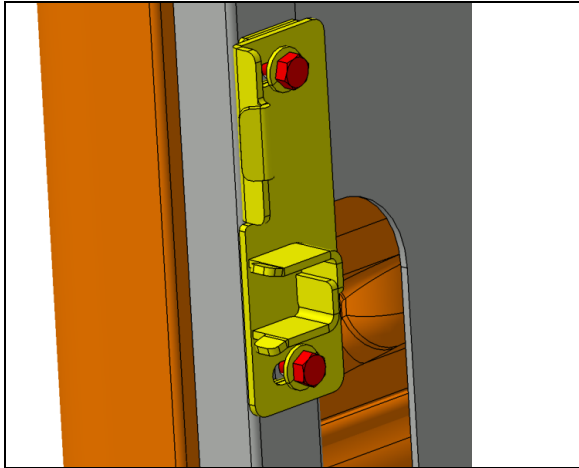

FIGURE 135
14. Perform the transversal adjustment by moving the strike plate using the slotted holes (FIGURE 135).